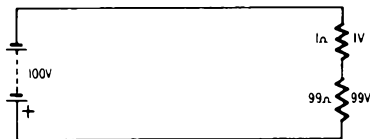

Fig. 606. Simple resistive network illustrates probe action.
To understand how the probe operates, first consider the simple resistive network shown in Fig. 606. Here we have two resistors in series placed across a 100-volt source. The voltage drops across each resistor will be determined by the amount of resistance. The total resistance in the circuit is 100 ohms and consists of two series resistors, 1 ohm and 99 ohms. The voltage (100) of the source distributes itself proportionately between the two